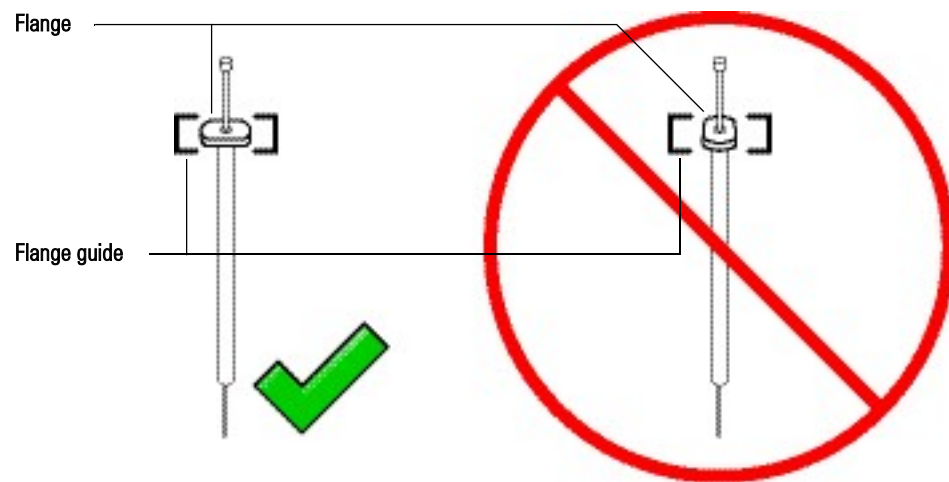

Figure 33 Syringe flange orientation
- 7 Align the syringe flange with the flange guide and press the syringe into place, keeping the needle end in the guide hole of the needle support foot. Make sure that the flat edge of the syringe flange faces out (Figure 33).